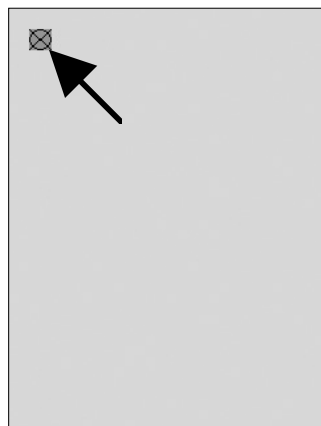

Fig. 8-32 Touch Calibration
- Using a finger, stylus or pointed object (e.g. syringe adapter), touch the center of the calibration mark as it moves around the screen (Fig. 8-32).